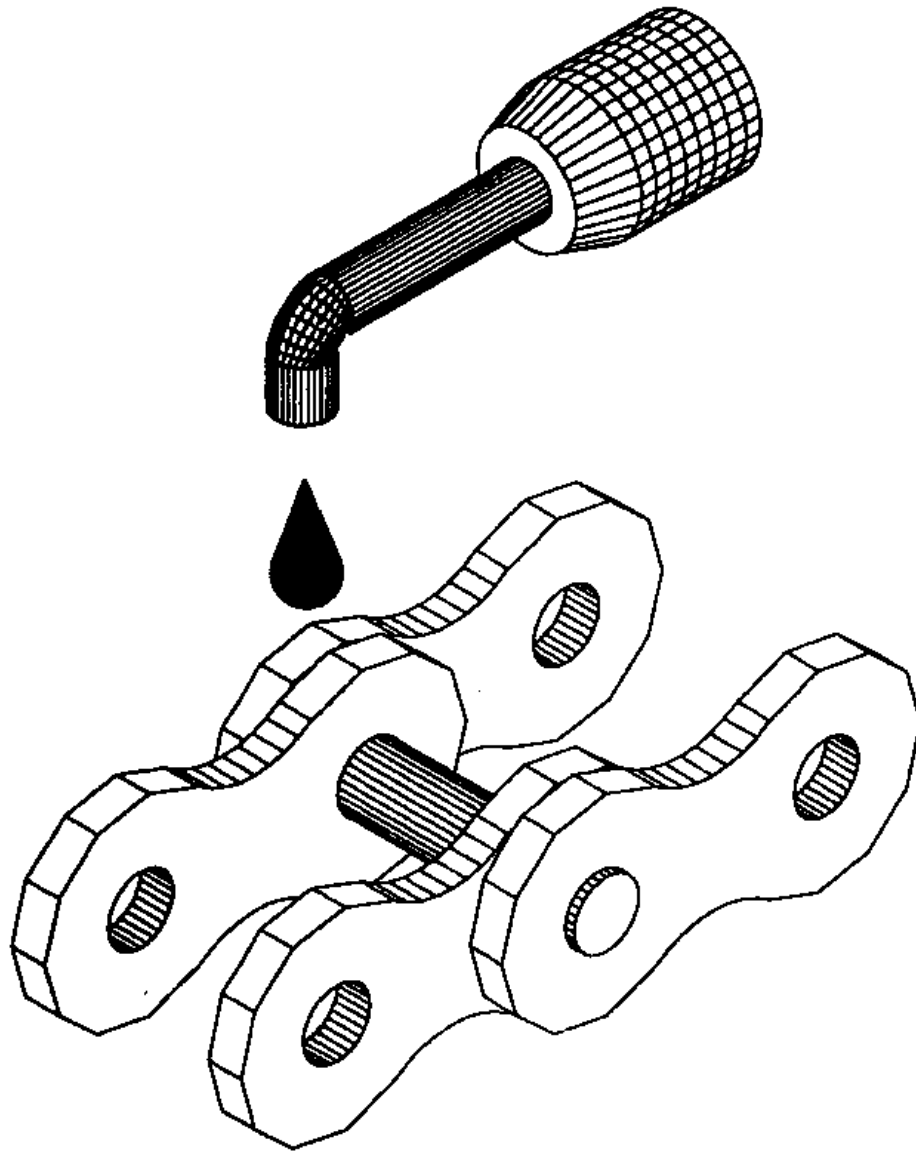

Figure 2
- Apply oil to drive chains (see fig. 2, page 20) Use chain and cable lubricant.